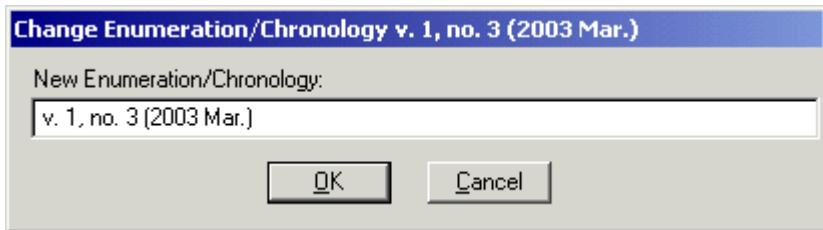

Figure 8-12. Change Enumeration/Chronology dialog box
- If you want to change the enumeration/chronology of an issue, select the issue from the drop-down menu in the **Issue** field and click the **Change Issue** button. This opens the **Change Enumeration/Chronology** dialog box (see Figure 8-12).